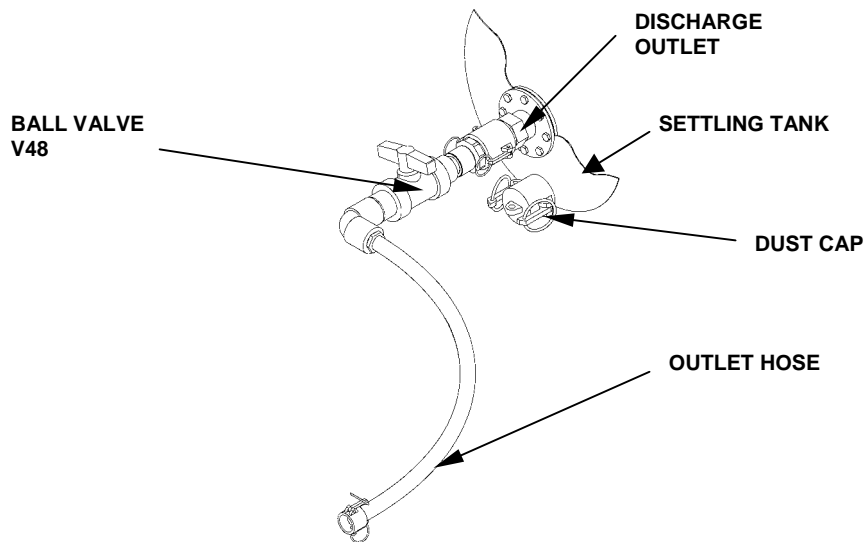

Figure 5. Settling Tank Outlet Spool Piece.
13. Attach the outlet spool piece by feeding the longer hose through the water tank fitting and connect the camlocks. See Figure 5.